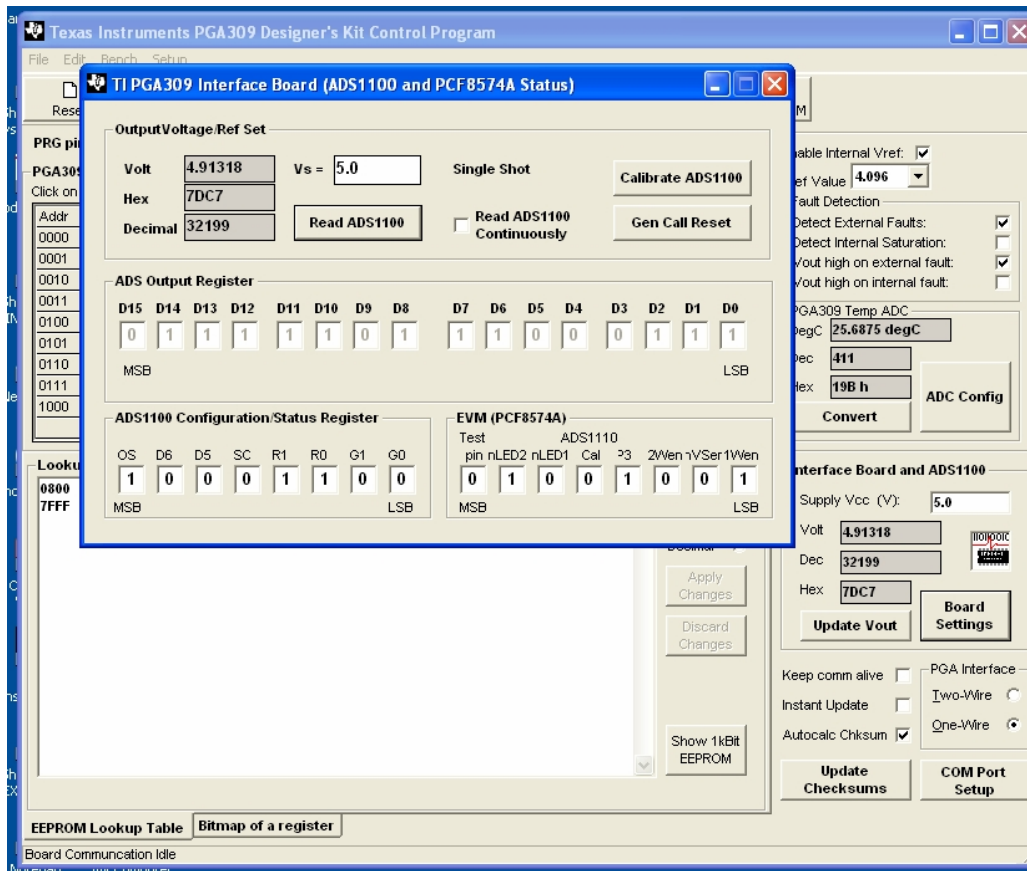

Figure 15: Status Window
- 4) Configure ADS1100 for continuous readback. In the Main Window click on “Board Settings”. The Status Window (“ADS1100 and PCF8574A Status” Window) will appear as in Figure 15.